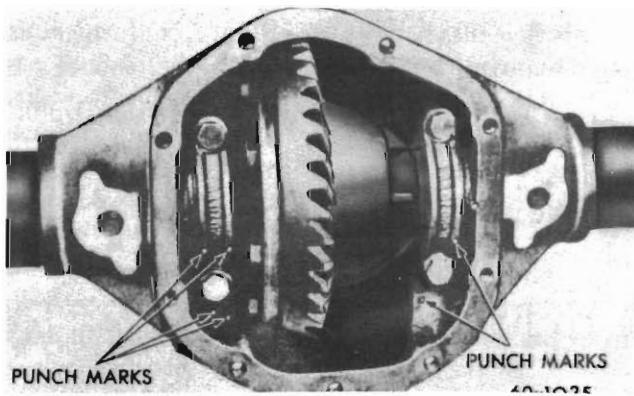

Fig. 18 - Bearing cap identification.
- (8) Mark carrier and differential bearing cups for location in assembly (see Fig. 18).